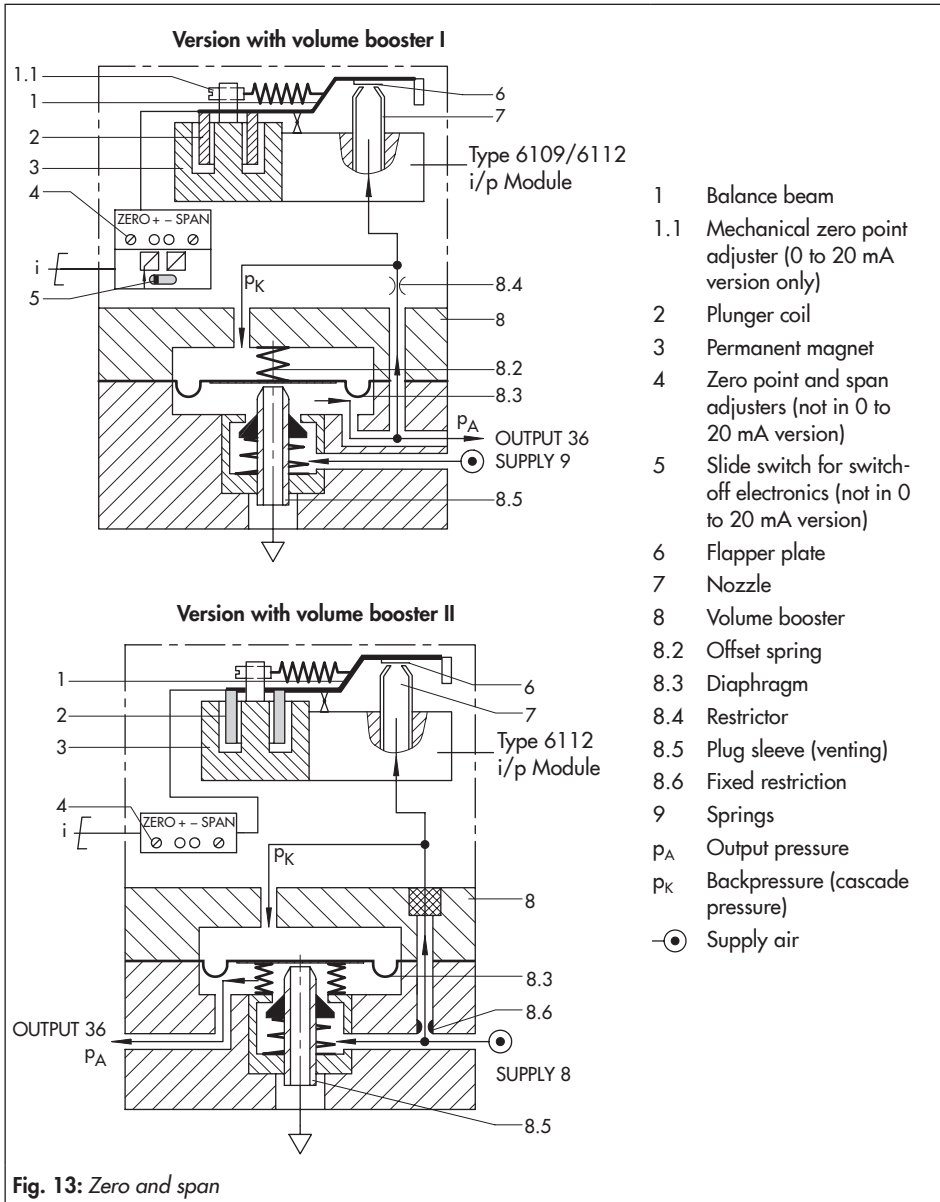

Fig. 13: Zero and span
The **ZERO** and **SPAN** potentiometers are accessible through the holes in the front cover after opening the clear plastic cover (see Fig. 13).
- Insert a screwdriver through the hole in the cover of the Type 6112 i/p Module (see Fig. 13).